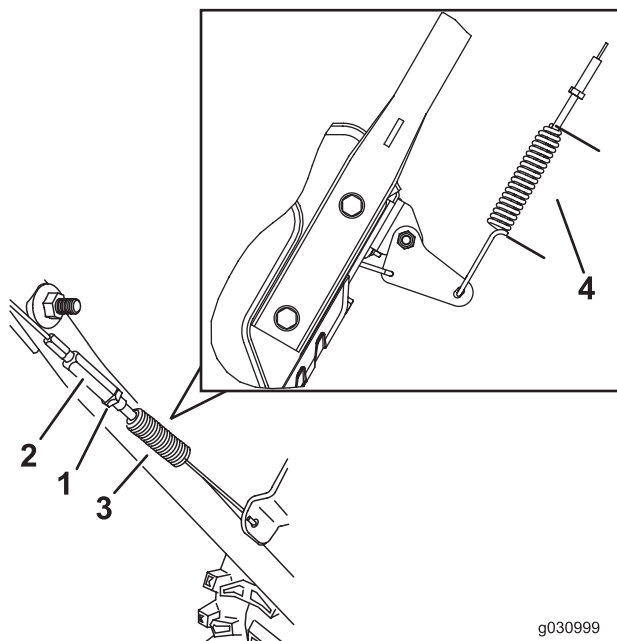

Figure 35
3. Loosen or tighten the turnbuckle to adjust spring length to 5.5 cm (2.18 inches) as shown in Figure 35.
4. Tighten the jam nut (Figure 35), ensuring there is slight tension on the cable.